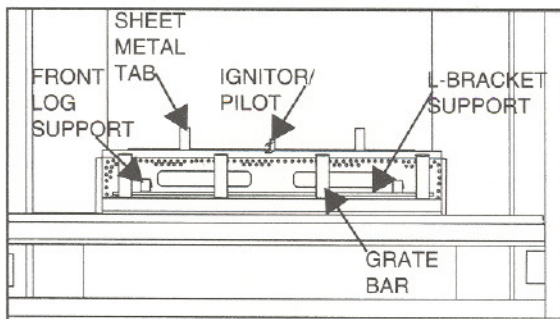
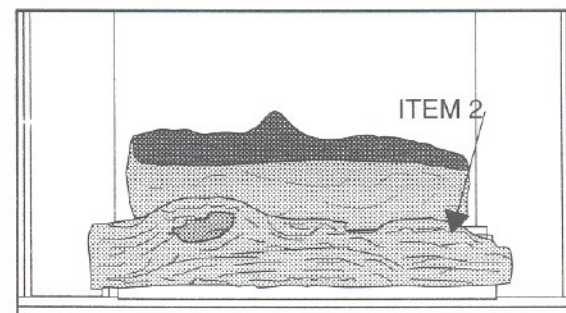

Figure 41
Figure 44
1. If Sheet Metal Tabs are in the upright position, as shown in **Figure 41**, bend them down. They should be flush with the Back Log Support.
Using a phillips screwdriver loosen and remove the left and right outermost screws on the "L" Bracket Support. Remove the (2) Front Log Supports, shown in **Figure 41**.
Also, install or make sure the four (4) Grate Bars are in their respective positions at the base of the Burner Pan Assembly. See **Figure 41**.
3. See **Figure 44**. Place the Front Log (Item 2) directly on the "L" Bracket Support. (See **Figures 41 & 42**.)